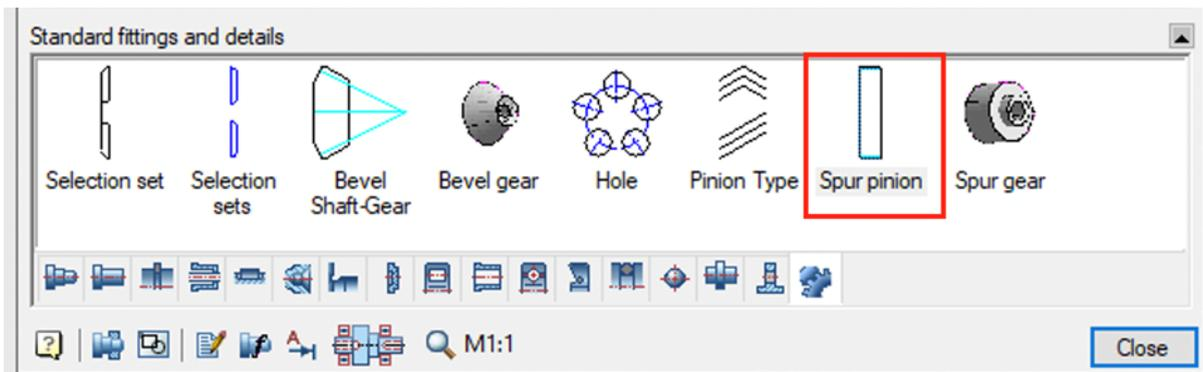

Fig. 11. **Spur pinion** element
2.3.2. Select **Spur pinion** (Fig. 11) from the elements that appear.